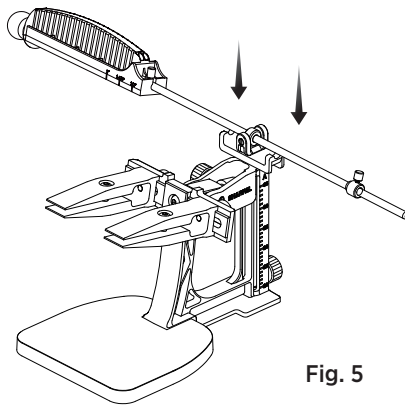

Fig. 5
5. Rest the sharpening guide rod in the parking slot on the support bar (See Fig. 5).